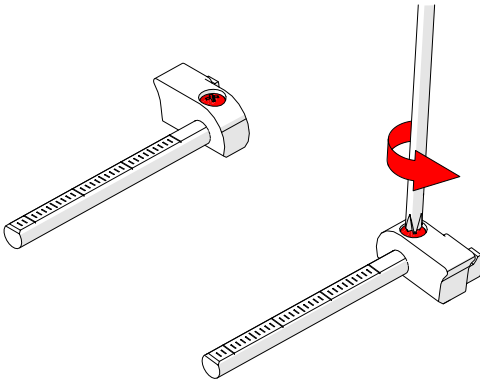

Fig. 85 - Remove the crossbar clamp bracket screw
7. Using the Phillips driver (Fig. 23), unscrew the crossbar clamp bracket screws (Fig. 85).